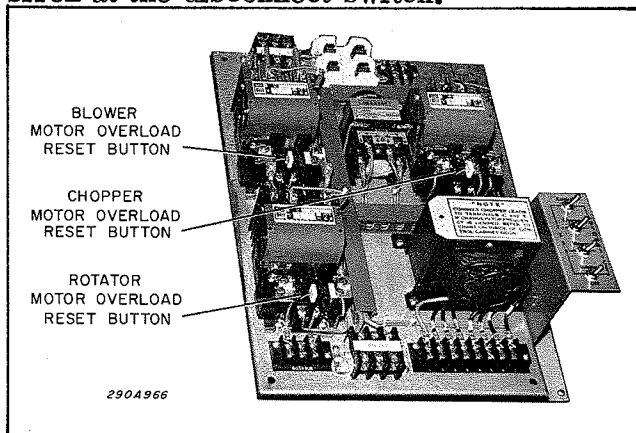

Figure 5-9. Overload Reset Button Location.
D. Manual Resetting of Overload Relays. (See figure 5-9)